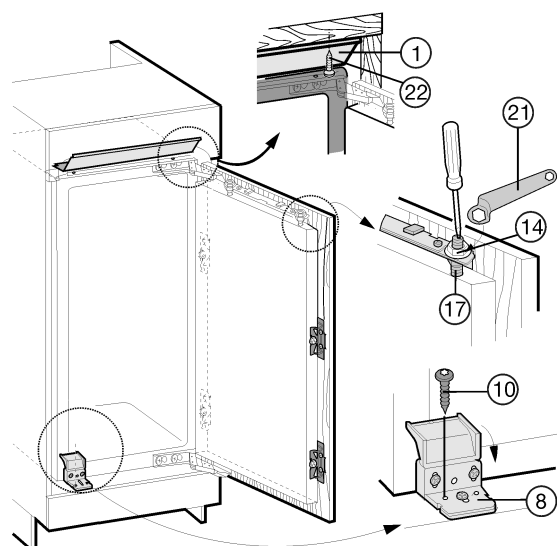

Fig. 27
- ▶ Tighten the locknuts Fig. 27 (14) with the ring spanner Fig. 27 (21) while holding the adjusting bolts Fig. 27 (17), with a screwdriver.
- ▶ Screw the equaliser trim Fig. 27 (1) from below using three screws Fig. 27 (22) onto the cupboard ceiling.
- ▶ Fix the appliance in the round hole at the bottom with the second screw Fig. 27 (8) through the plastic bracket Fig. 27 (10).